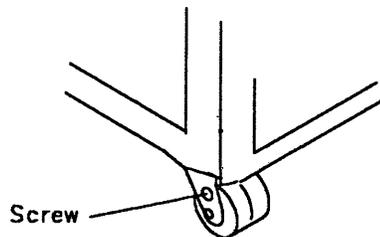

Figure 1-4. Caster Lock Screw
- Step 6. ___ Move the frame to its final position (see Figure 1-1 on page 1-4), and tighten the rear caster lock screws (see Figure 1-4).